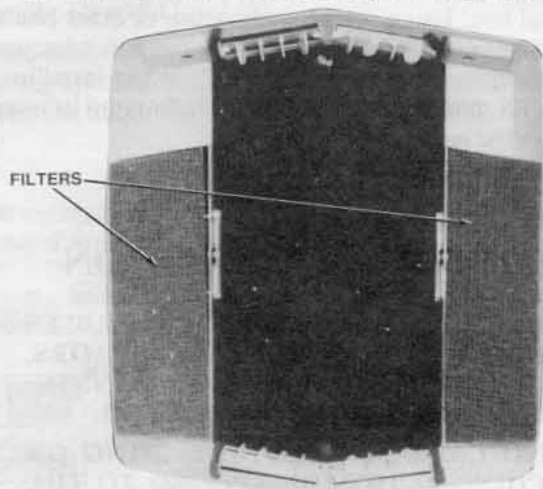

Fig. 23
- Make sure the non-allergenic natural fiber filters are in position in the ceiling assembly shroud, See Figure 23.
The stickers are divided into two separate envelopes, one envelope for the Delta T series and one envelope for the Delta TX series equipped with exhaust. The respective envelopes are identified on the outside. Locate the appropriate envelope. Examples of control stickers are shown in the check out section of these instructions, See Figure 23.